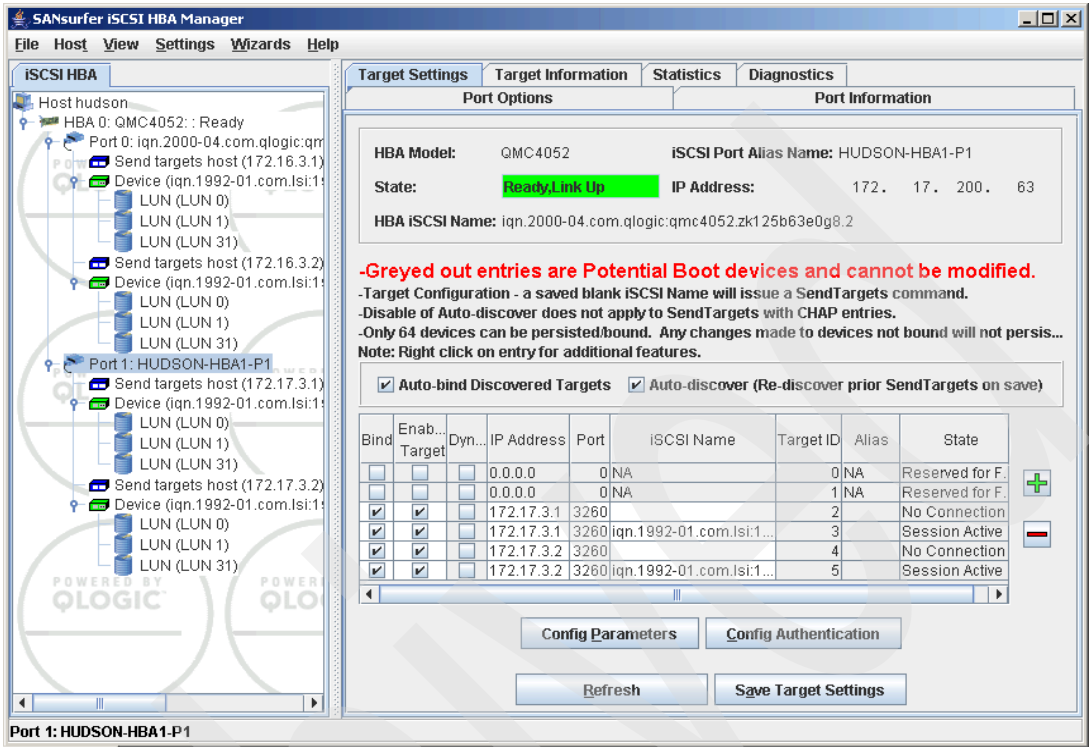

Figure 21-67 SANsurfer - All targets reconnected
14. After all sessions are active (as shown in Figure 21-67), the applications that access these logical drives can be re-started.